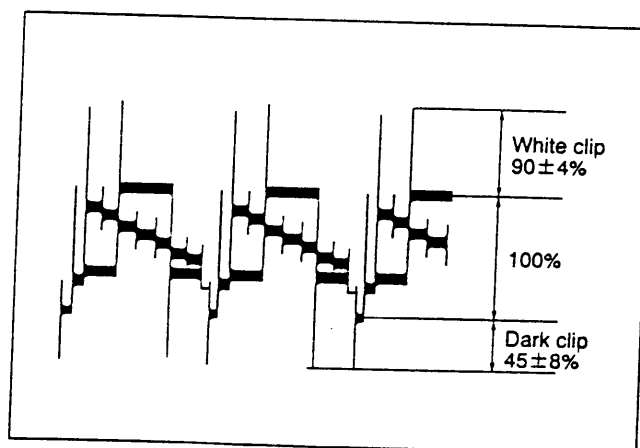

Fig.3-3-4 White/dark clip
- 4) Adjust TV PROG "-" or "+" button for  $90 \pm 4\%$  white clip and  $45 \pm 8\%$  dark clip as shown in Fig.3-3-4.